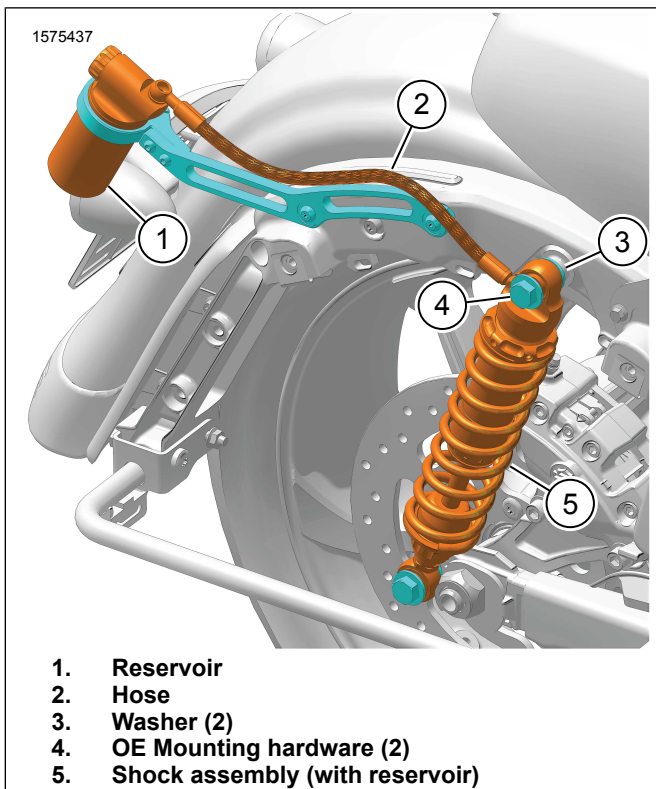

Figure 5. Shock Assembly
4. Install screw (2). Do not tighten completely.
5. See Figure 5. Install shock assembly.